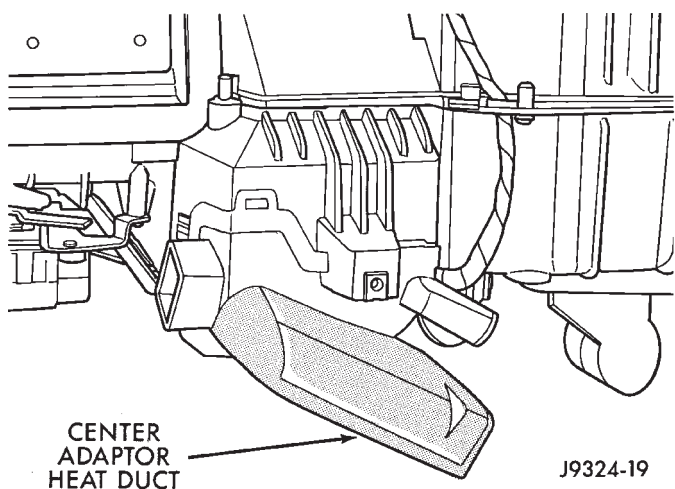

Fig. 15 Center Adaptor Heat Duct
- (1) Remove the heater-A/C unit from the vehicle (refer to Heater-A/C Unit Removal).
- (2) Turn the heater-A/C unit upside down.
- (3) Remove the retaining screws holding the two halves together. Remove the center adaptor heat duct (Fig. 15) and remove the screw.